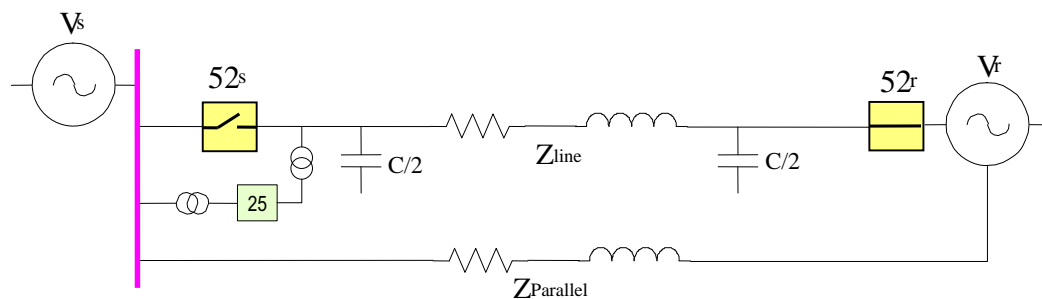

Figure 5-23: Synchronism check element
Synchronism check (25) is defined as the comparison of the voltage difference of two circuits with different sources to be either linked through an impedance element (transmission line, feeder, etc.), or connected through parallel circuits of defined impedance (Figure 5-23: Synchronism check element) The voltage comparison between both sides of a breaker is performed before closing the breaker, in order to minimize internal damage that can occur due to the voltage difference, both in magnitude and angle. This is extremely important in steam generating plants, where reclosing output lines with angle differences can lead to severe damage to the turbine axis.